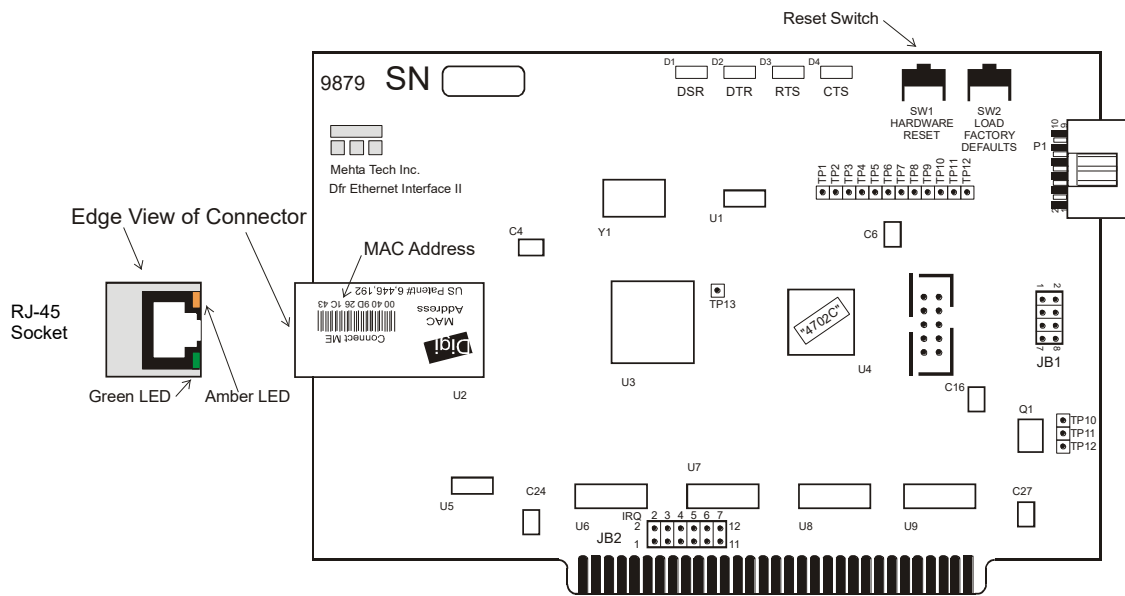

Figure 8: Ethernet Interface Module, showing location of reset switch, top edge LEDs, internal RJ-45 socket, and MAC address
- ☐ 6. When you open the hardware packet that comes with this upgrade kit, make a note of the MAC (machine) Address of the Digi module mounted on the Ethernet Interface Module. See figure 8 for the location of the MAC Address; this number sequence is located just below the bar code on the Digi module (when the Ethernet Interface Module is turned upside down). You will need this MAC address to identify the device during the setup procedure.